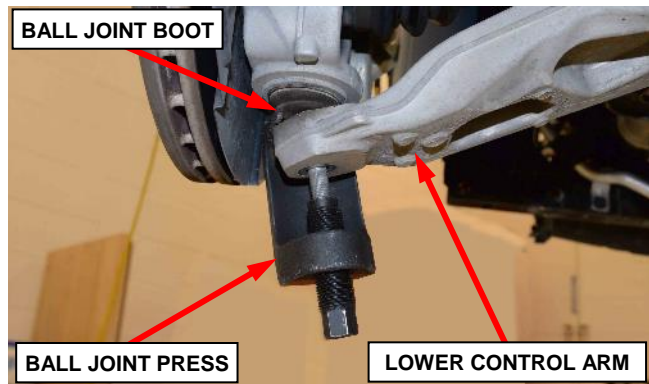

Figure 24 – Ball Joint Press 4150A
29. Using ball joint press 4150A, separate the lower ball joint stud from the lower control arm (Figure 24).